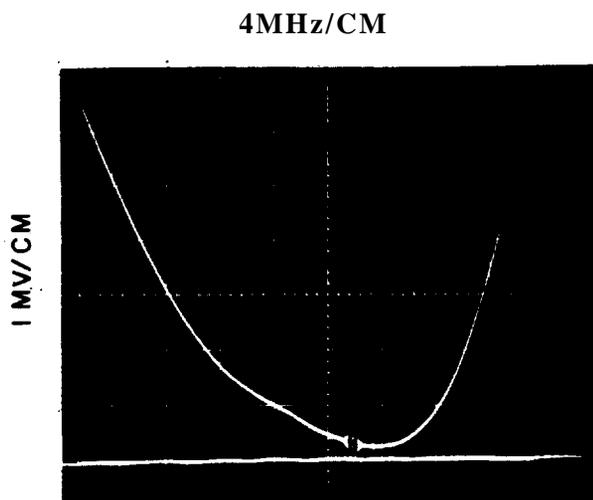

Figure 4-15. Typical Response, 475-425 MHz VSWR Alignment
- (22) Tune from 475-425 MHz while adjusting the second set of rotor plates on C1A and C1B. Refer to Figure 4-15 for the desired response.
- (23) Continue to tune down the band by adjusting the remaining rotor plates on C1A and C1B. The response may change from that shown in Figure 4-15 to a double-lobed response. Do not allow the response to exceed the 2.5:1 VSWR reference.